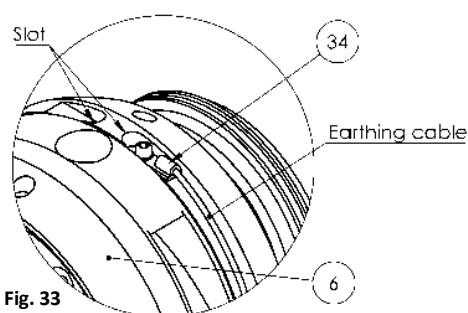

Fig. 33
- Screw the cable connector (34) into the slot available on the top of the shell (Fig. 33).